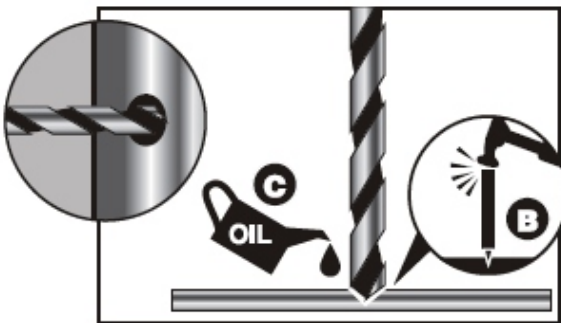

FIG.12
**GAURIREA IN METAL – FIG.12**